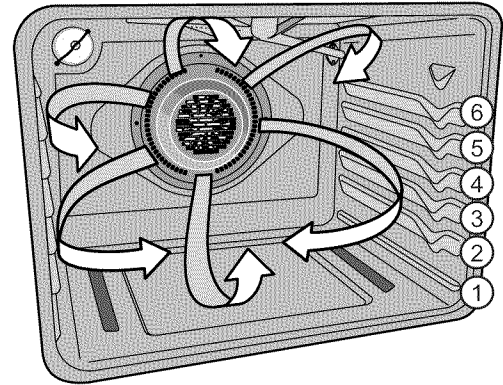

Fig. 1
3. When using 2 oven racks at the same time, place in positions 3 & 5 for best results (See Fig. 1).